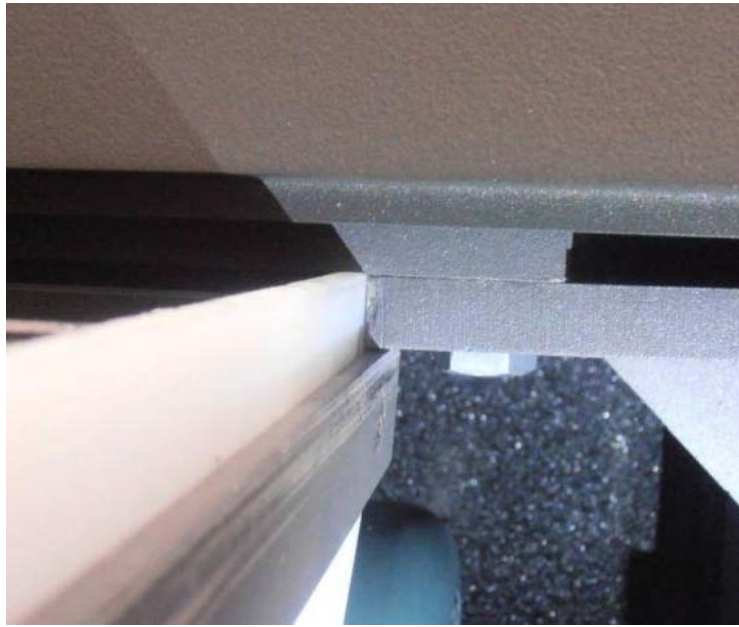

Figure 12
- b. Align the hopper and ensure the drawer can close all the way before tightening bolts as the fit is very tight (See figure 12).